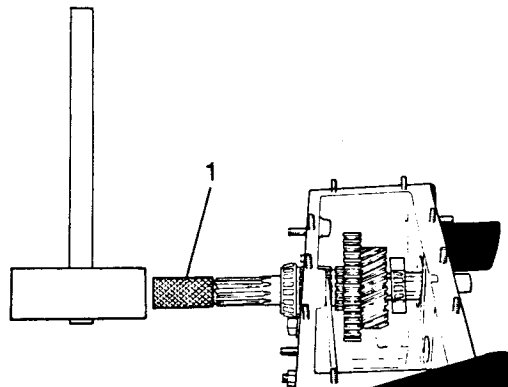

Fig H2.28
- (7) Refer to Fig H2.28. Using special tool 243241 (1) knock the shaft forward, until the front bearing remains perfectly seated between the outer track and the circlip which retains gears.
- (8) Fit the rear bearing outer track, pushing it home until there is no end float of the shaft, but maintaining the rotation of it without any preload.